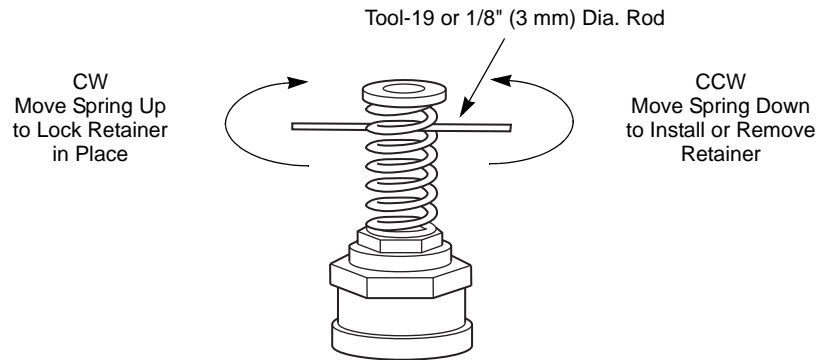

Figure-6 Installation of Spring and Spring Retainer.
7. Insert TOOL-19, 1/8" (3 mm) diameter rod, through the spring coil and through the hole in the stem extension (Figure-6).